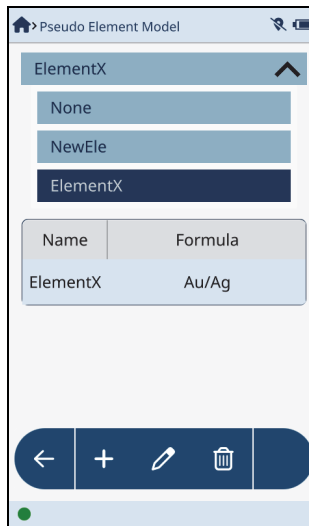

Figure 2-51 Pseudo Element Model screen
1. On the **Pseudo Element Model** screen, tap a model name to select it (see Figure 2-51 on page 65).